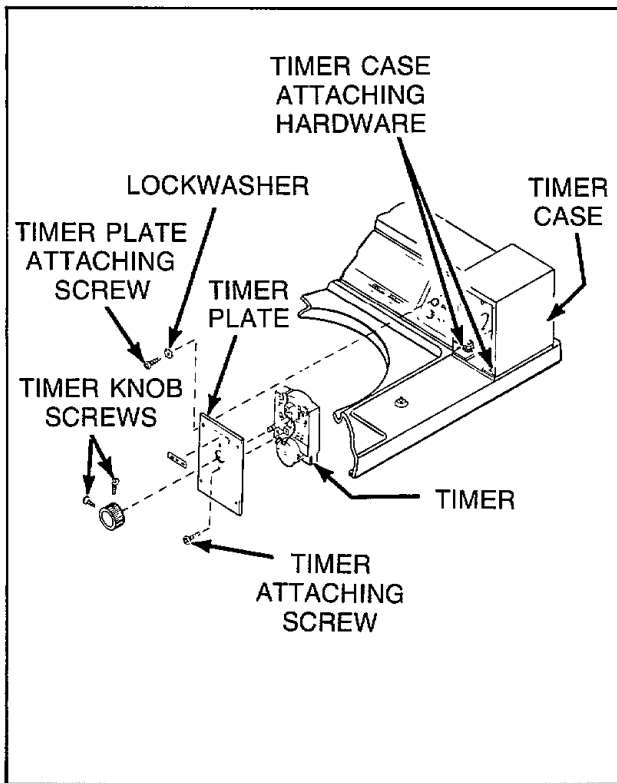

Figure 6
#### 5. TIMER ASSEMBLY - Non-Metered Models (Refer to *Figure 6*)
- h. Remove carriage bolt, washer, lockwashers, and nuts holding timer case to cabinet top, *Figure 6*.